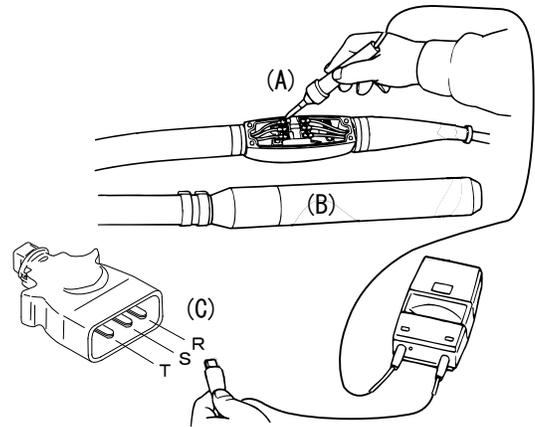

Figure 7. Insulation Resistance Test
6. With the switch turned on, check the insulation resistance between the plug terminal and vibration head assembly (Figure 7).